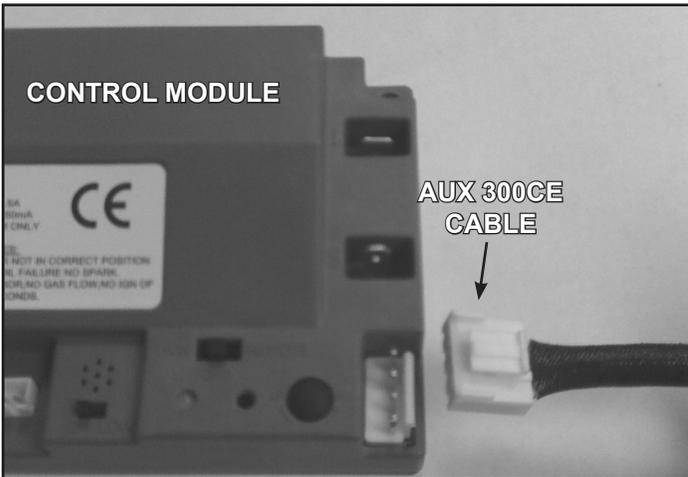

Figure 12.8 - AUX 300 module installation
- Insert the 4 hole harness from the AUX300CE module into the 4 pin plug on the control module. See Figure 12.8.